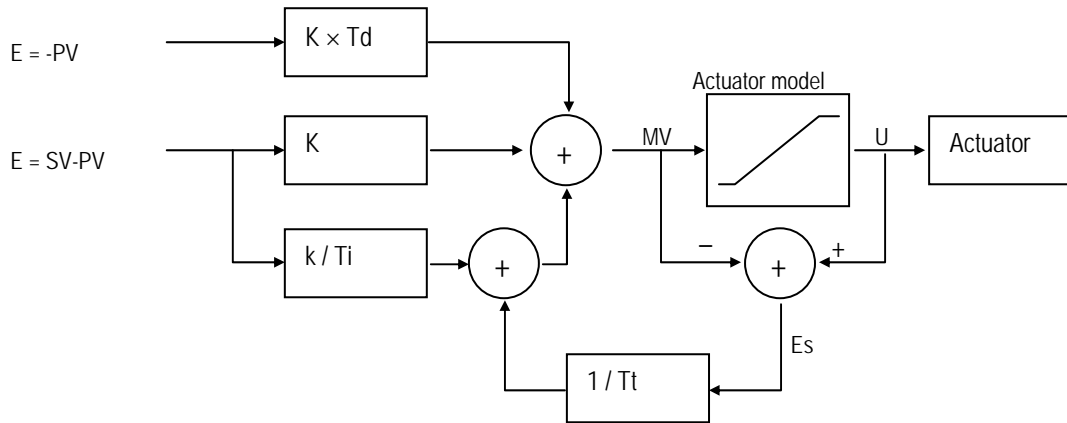
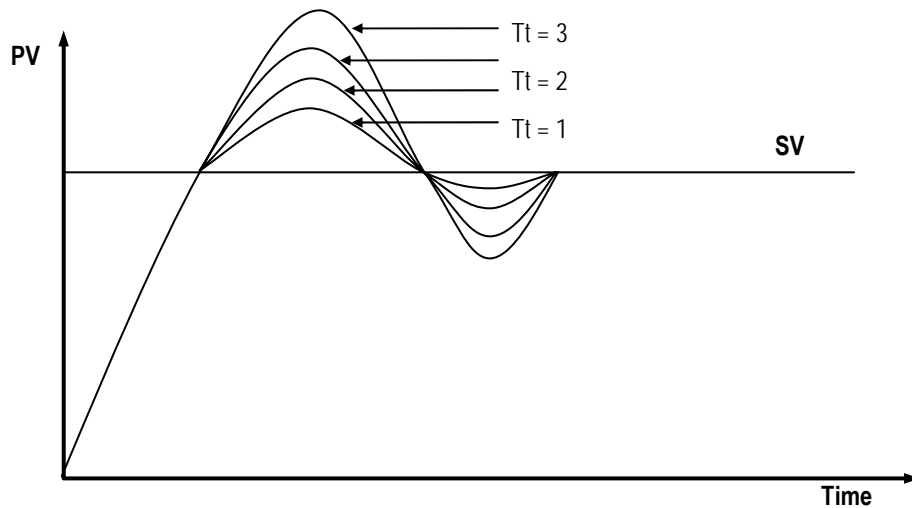

Fig. 2-13 The block diagram of anti-windup control system
Fig. 2-14 The PV output characteristics with different Tt values.
As shown in the Fig. 2-13, the anti-windup system feedback the multiplication of gain ($1/T_t$) and E_s to the input of integral term. The E_s is obtained as the difference value between actuator output (U) and manipulation value of PID controller (MV). The T_t of the feedback gain is tracking time constant, and it is in inverse proportion with the resetting speed of integral term. Smaller T_t will cancel the windup of actuator faster, but too small T_t can cause anti-windup operation in derivative operation. The Fig. 2-14 shows several T_t value and PV in the PI control system.